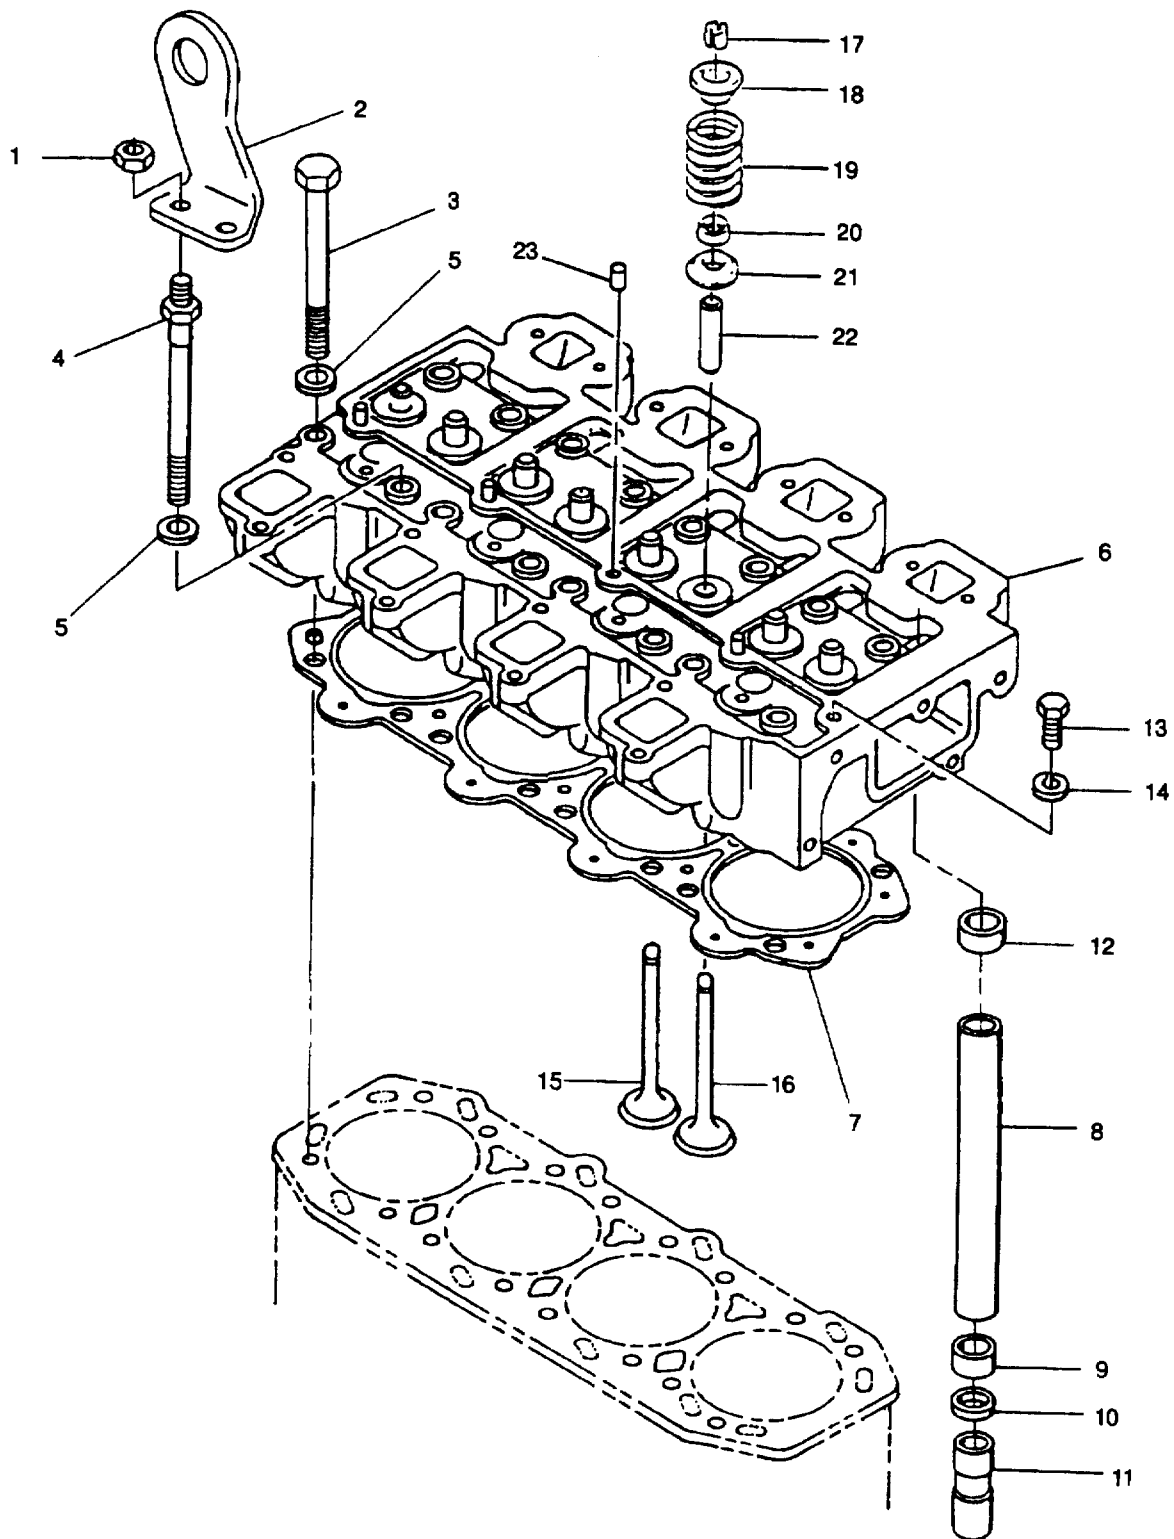
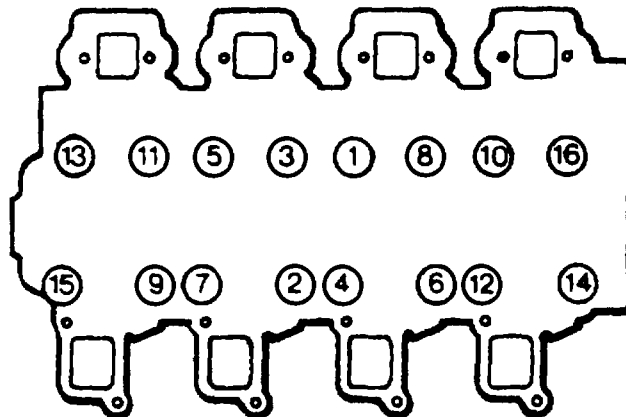

FIGURE 3-28. Cylinder Head Assembly
FIGURE 3-31. Cylinder Head Bolt Tightening Sequence
- e. Remove four nuts (1, FIGURE 3-28) securing lifting eyes (2); remove lifting eyes (2).
- i. Lift off cylinder head (6, FIGURE 3-28) and gasket (7). Discard gasket.
- a. Remove pushrod tubes (8, FIGURE 3-28), seals (9), washers (10) and tappets (11) from crankcase.
- b. Remove seals (12) from cylinder head (6). Discard seals (12).
- c. If necessary, remove capscrew (13) and washer (14).
- a. Using standard valve spring compressor tool install each valve (15 or 16, FIGURE 3-28) as follows:
- (1) Lightly lubricate valve stem with engine lubricating oil (MIL-L-2104) and insert valve (15 or 16).
- (2) Lay head (6), upright on bench and place a block of wood under head of valve being replaced.
- (3) Place valve spring plate (21) in position.
- (4) Install a new valve stem seal (20) to valve guide (22) taking care to ensure it is correctly located over valve guide and is not distorted.
- (5) Install valve spring (19) and spring carrier (18).
- (6) Push down on tool until collets (17) can be installed in position with their tops slightly sunk in valve spring carrier (18).
- (7) Gently release tool and check that collets (17) are correctly located.
- b. If removed, install capscrew (13), washer (14), and breather tubes (23).
- a. Ensure cylinder head (6, FIGURE 3-28) and crankcase mating surfaces are clean and dry.
- k. Tighten all sixteen bolts in three stages and in sequence shown in FIGURE 3-31.
- (1) First tighten to 6.2 ft-lbs (8.4 Nm).
- (2) Second tighten to 38.5 ft-lbs (52.2 Nm).
- (3) Final tighten to 66.6 ft-lbs (90.3 Nm).
- n. Position lifting eyes (2, FIGURE 3-28) on bolts (4) and secure with nuts (1).